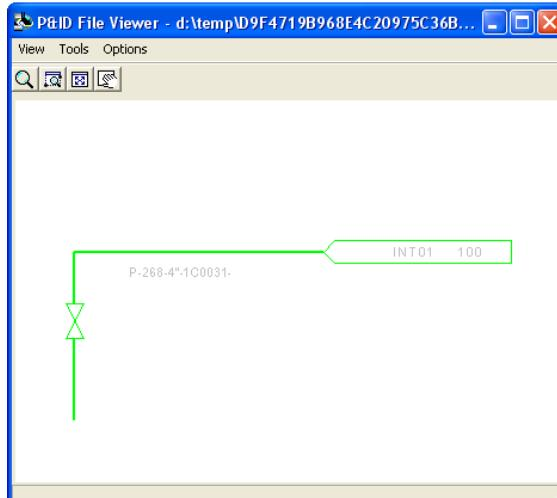

Figure 38: Correlation Status of the Placed Pipe Section in the P&ID File Viewer Window
32. Now, open the **P&ID File Viewer** window. The pipe section you placed is highlighted in green, as shown in Figure 38, which indicates that the pipe section and the off-page connector now are correlated and its properties and topology match the design basis.